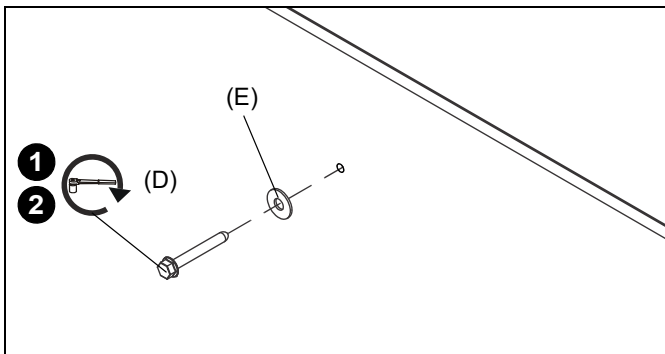

Figure 22
1. Use one 5/16" x 2-1/2" hex flange head lag bolt (D) and one 5/16" washer (E) through product and into pilot hole. (See Figure 22)